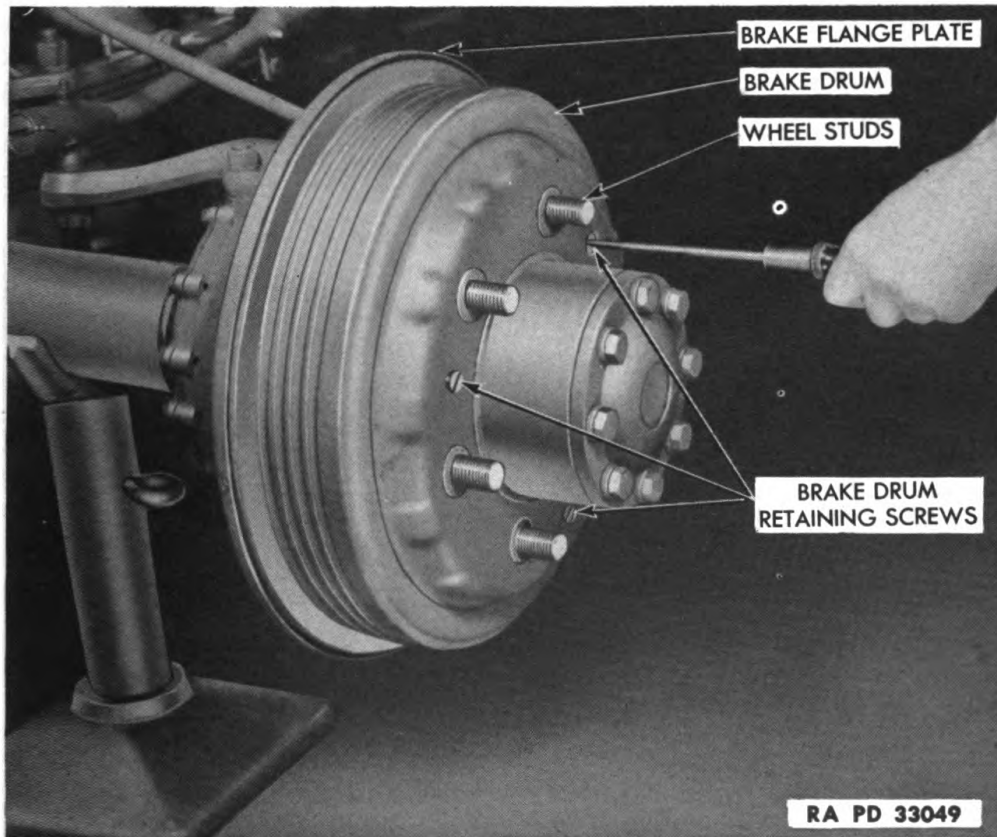
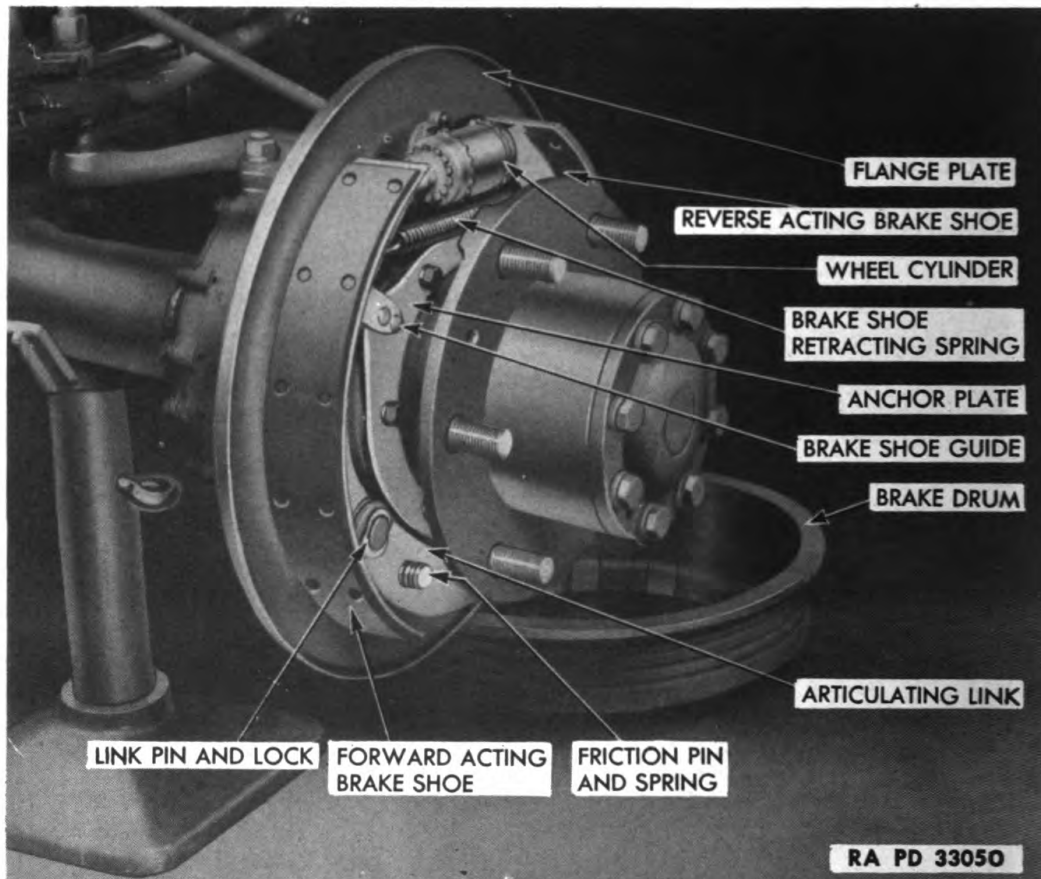

Figure 98—Brake Drum Replacement
Figure 99—Brake Construction, Front Wheel
a. Place vehicle on a level spot and remove the wheel. Remove the three brake drum attaching screws and brake drums (fig. 98). Disconnect pipe or hose from the wheel cylinder. Disconnect the brake shoe retracting spring with pliers (41-P-1579). Remove the two cap screws holding the cylinder to the flange plate and remove cylinder (figs. 99 and 100). Install a new wheel cylinder assembly in the reverse order of removal, and bleed the entire system (par. 123).
126. BRAKE SHOE REPLACEMENT (figs. 99 and 100).
a. **Removal.** Place vehicle in jack stands and remove all wheels. Remove the three screws that attach each brake drum (fig. 98), and remove the drums. Install wheel cylinder clamps (fig. 101) to prevent leakage of brake fluid. Using brake spring pliers (41-P-1579) remove the brake shoe retracting springs. Remove the brake shoe anchor pin lock and pin; one on front brakes, two on rear; and lift off brake shoes. Remove the articulating link friction spring pin lock, pin, and spring. Disassemble the articulating links from the shoes by removing pin lock and pin.